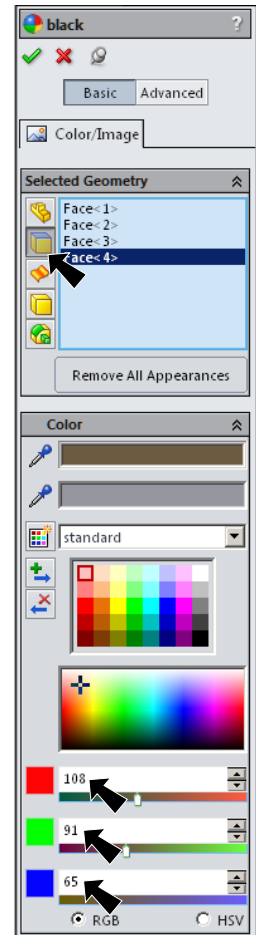

Fig. 14
Step 6. In the Appearances Property Manager, under Selected Geometry, **Fig. 14**
under Color, **Fig. 14**